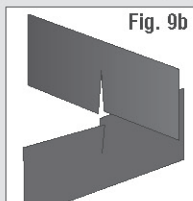

Fig. 9b
- Assemble as shown (Fig. 9b).